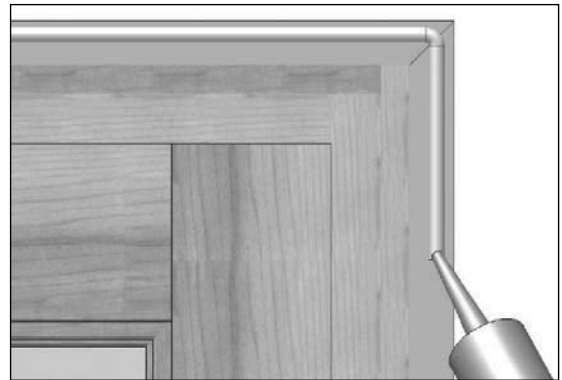

FIG. 8
- D) Apply sealant on the backside of the head and side brickmould. Apply a 1/4" continuous bead of silicone along the entire length a 1/4" from the outside edge of the brickmould. (Fig. 8)